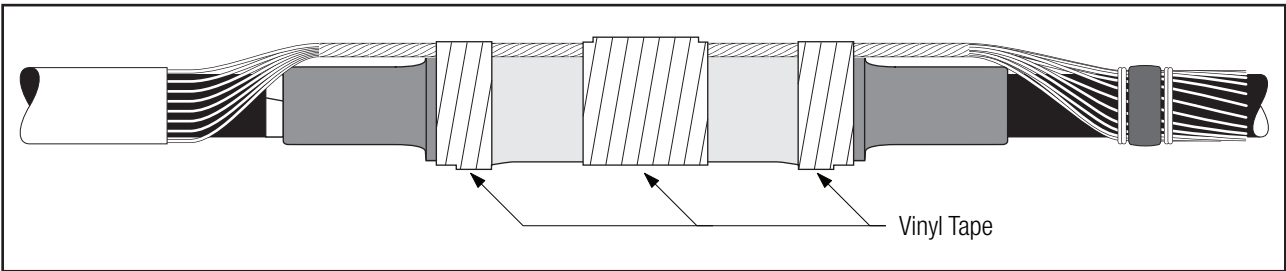

Figure 39
10.1.2 Apply two wraps of vinyl tape around each end of the neutral pad and over the connector (Figure 39).